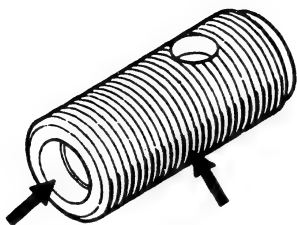

Fig. 73 Screw bushing
4. Check that the screw bushing's threaded portion is not damaged or worn excessively and that the adjusting pin moves smoothly and firmly in the screw bushing. Replace the screw bushing (and the adjusting pin) if defective. (Fig. 73)